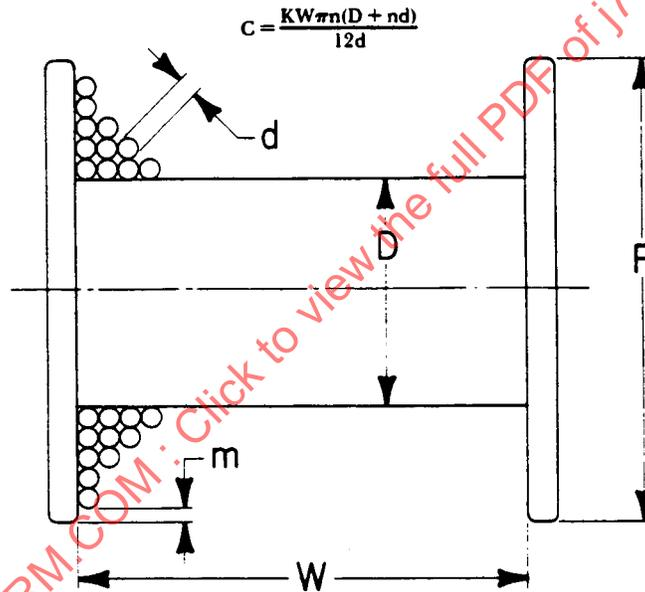

FIGURE 1—DRUM DIMENSIONS
5.5 Maximum Permissible Number of Layers—The maximum permissible number of layers of wire rope on the drum will be calculated from Equation 1. (See Figure 1.)